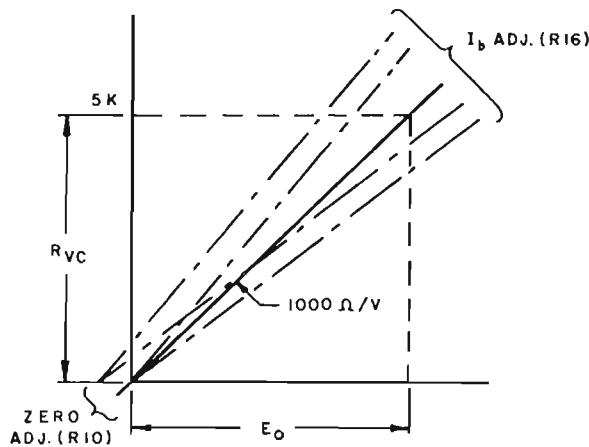

FIG. 3-6 ESTABLISHING PROGRAMMING LINEARITY.
- e) Open S1 and check the 5 volt reading. Repeat "C" and "D" as necessary to achieve the desired accuracy FIG 3-6 below shows graphically how the programming ratio can be precision adjusted.